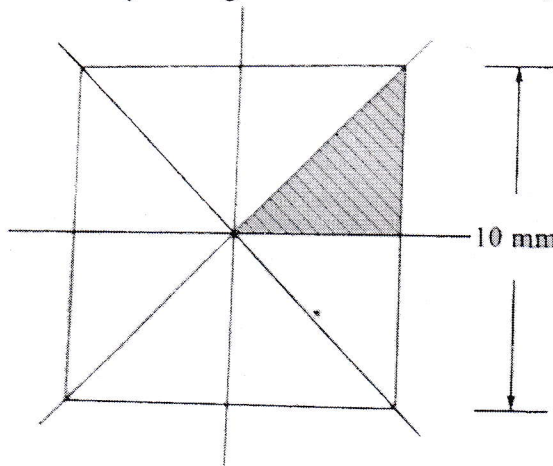

Figure 3
8. Evaluate the nodal values of a shaft of 10 mm square. Given $G = 8 \times 10^6$ N/cm² and $\phi=0.01$ degree/cm. Use only one eighth of the cross section. (figure 3) [10]